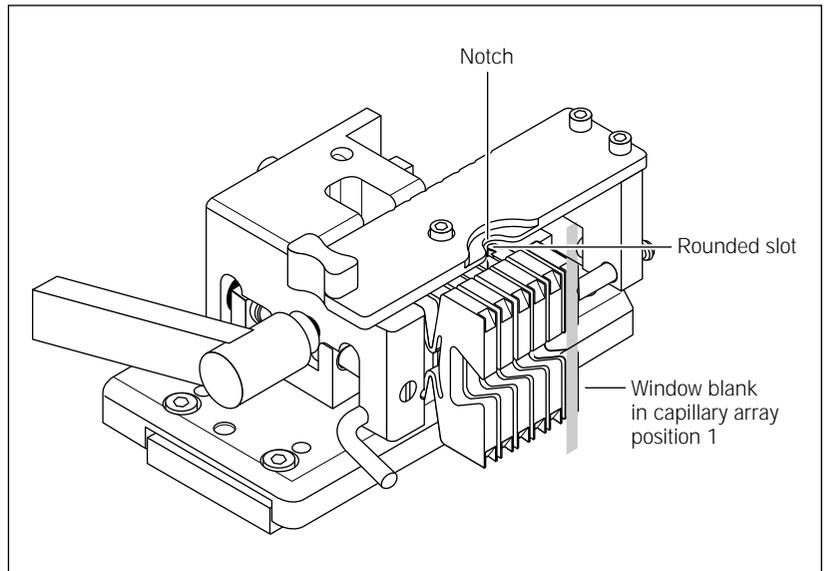

Figure 4-10. Removing or installing the window blank (MegaBACE 500 and flexible MegaBACE 1000 instruments only).
1. At the window platform (figure 4-7b), grasp the slider lever between your thumb and forefinger, and then slide the cover of the window platform toward you until the notch in the right edge of the cover is over the front window holder. The cover clicks into place as the notch passes over each window holder, and the window holder eject lever moves forward to the desired position (figure 4-10).
1. At the window platform (figure 4-10), locate the empty slot where you want to install the window blank. Locate the round slot that you will slide the rounded portion of the window holder into.